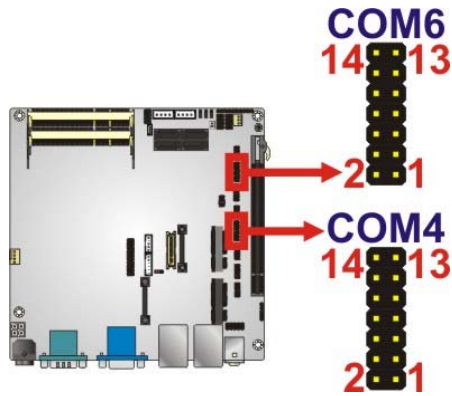

Figure 3-14: RS-232/422/485 Serial Port Location
- CN Location:** See Figure 3-14